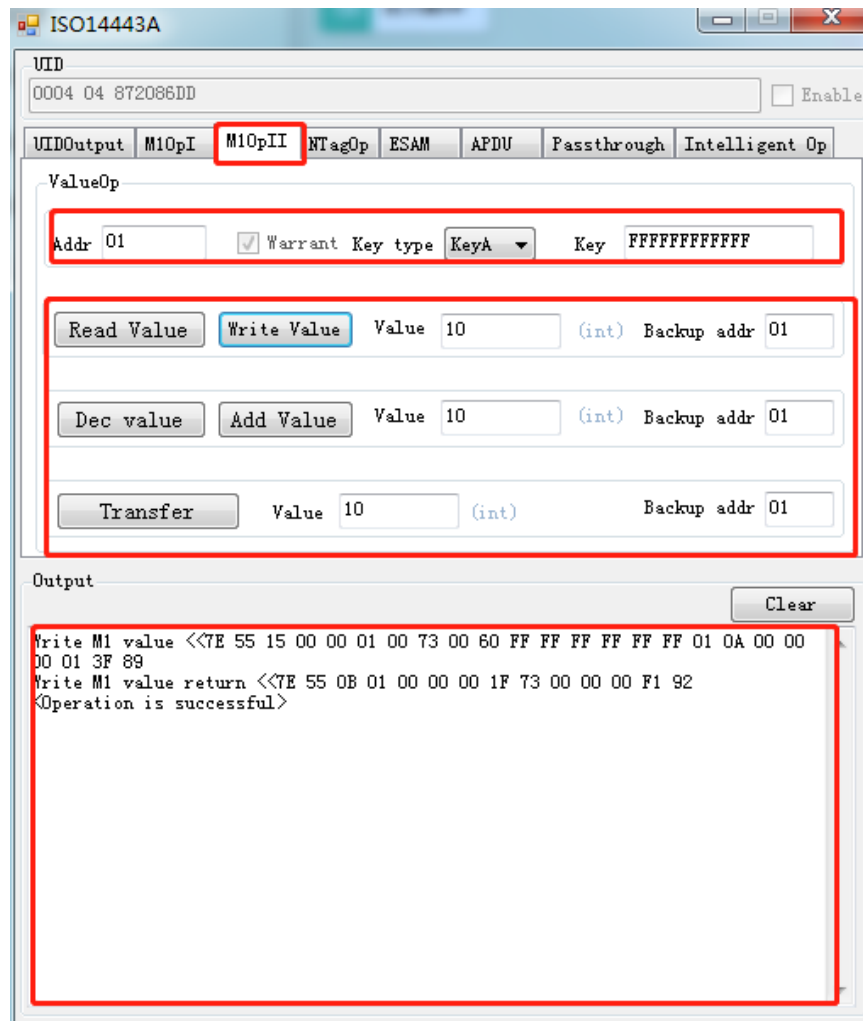

Figure 3.14 M1operation II
- ② The block address must be within the label's actual memory address. The number of blocks has been set to 1 by default. One block (16bytes) is read at a time.
As shown in figure 3.14, in **M1operation II**, write the head "address" of the value operation. The key type (**KeyA/KeyB**) and key (6 bytes) strictly comply with ISO14443A protocol (label factory default key: FFFFFFFFFF). Click “read value, write value, decrease value, add value, transfer” button, and the "output" window returns "operation successful", which indicates that the value operation is successful.